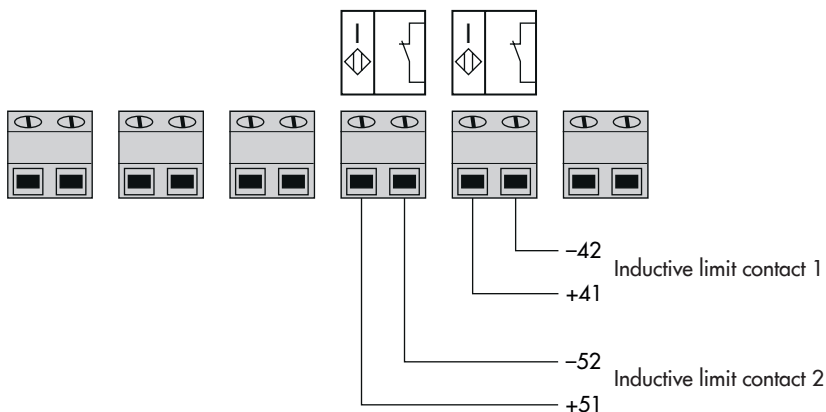
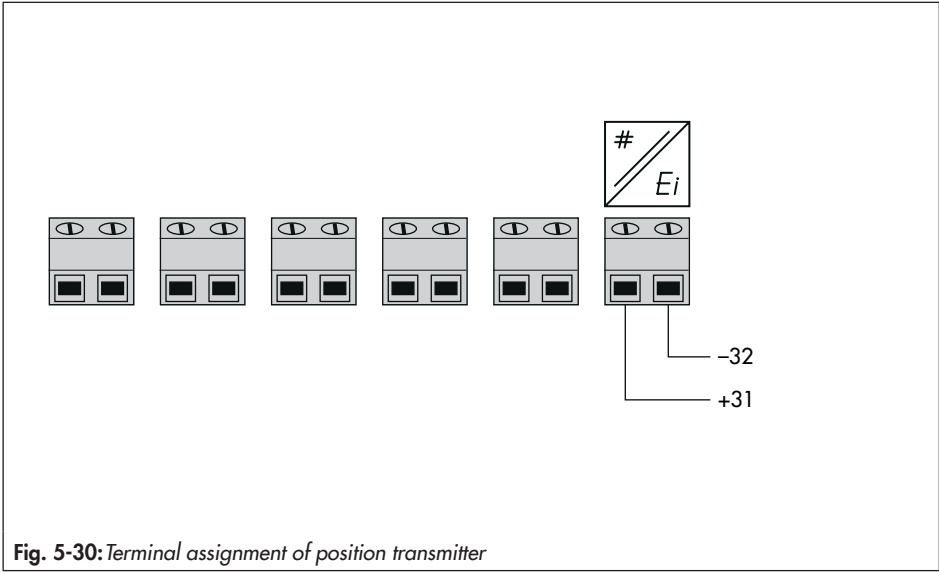

Fig. 5-28: Terminal assignment of inductive limit contacts
Fig. 5-30: Terminal assignment of position transmitter
- ➔ Connect options as shown in Fig. 5-28 to Fig. 5-30, if necessary.